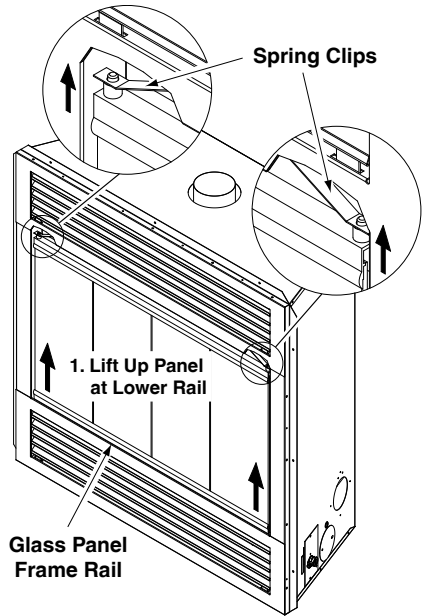

Figure 29 - Removing/Replacing Glass Door
1. Placing a screw driver or your finger tips into the gap between lower glass panel rail and bottom face frame, lift glass door assembly until door pins clear locating holes in bottom face frame (see Figure 29).